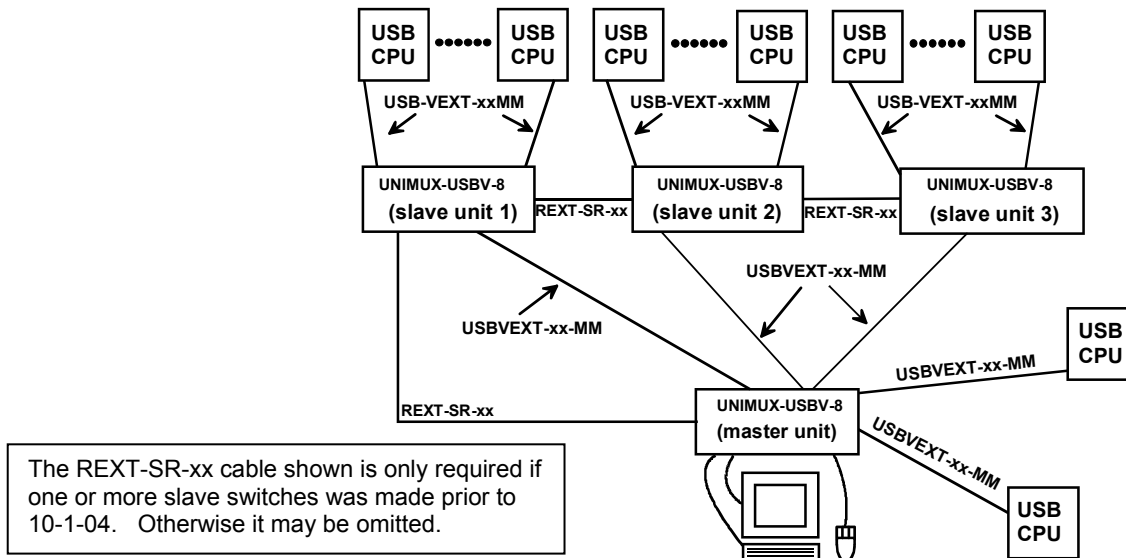
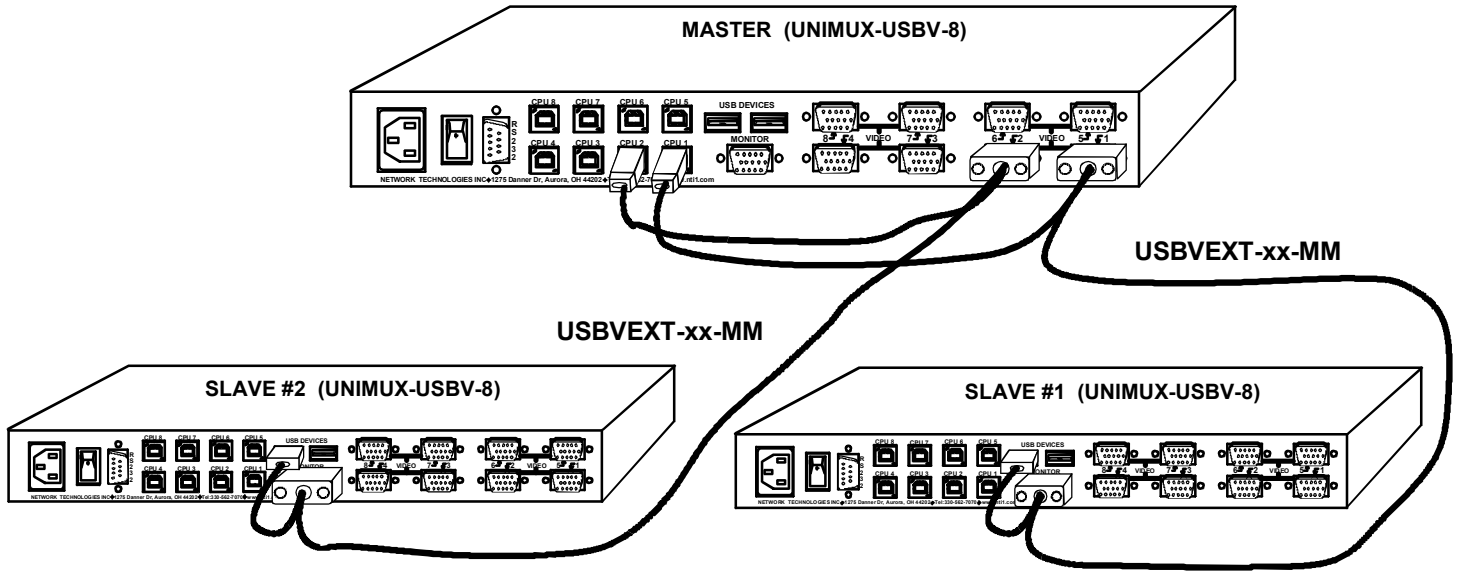

Figure 33- Connections for Cascading
Figure 35- Master-to-slave device cable connections- single-user switches
The UNIMUX-USBV-x USB KVM switch can be cascaded as shown in Fig. 33 below. Single user and multi-user UNIMUX switches may be connected downstream (see Figs.35 and 36). The first switch in a cascaded system is referred to as the "master", while all downstream switches are referred to as "slaves". The only additional hardware required to cascade switches is a set of device and monitor cables for each "SLAVE UNIT" (see MATERIALS on page 1). All CPUs and switches can then be controlled by users using OSD commands with Command Mode.
- **If the UNIMUX-USBV-x is connected in a cascaded system with earlier UNIMUX-USBV-x switches (products made prior to 10-1-04), then the DIP switches must be configured as indicated on page 34 and REXT-SR-xx cables must be used as shown in figure 33.**
- d. Repeat step b. & c. for each additional slave, keeping in mind that each slave will connect to the next available master's port (i.e. Slave #2 to master's VIDEO 2 & CPU 2, etc.) See Fig. 35 on page 35.